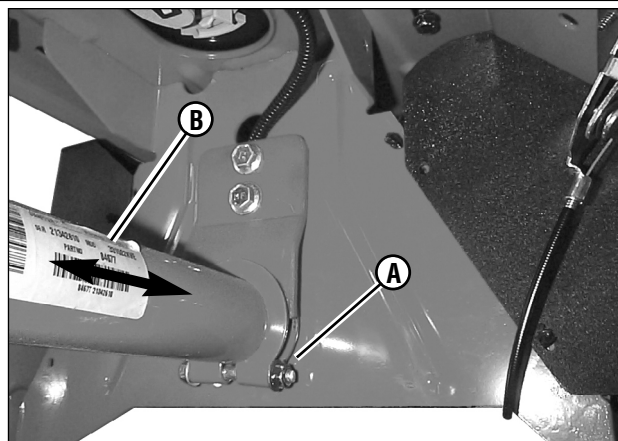

Figure 37: Mower belt adjustment
- Loosen the hardware (**A**, **Figure 37**) that secures the clamp that anchors the front frame assembly (**B**) to the rear main case.